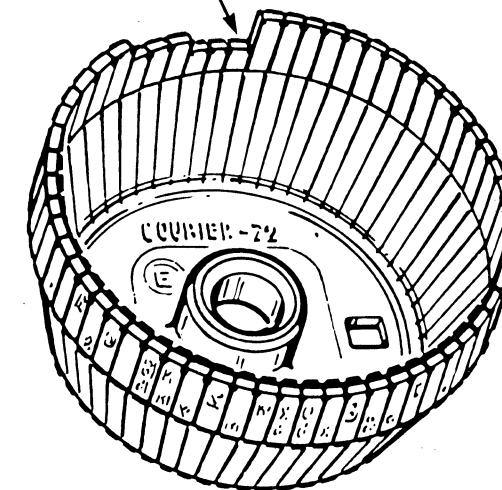

Figure 2-1 Last Short Finger on Print Thimble
- If the installed print thimble has a cutout, ensure that the last small finger on the right of the print thimble (see Figure 2-1) is centered on the hammer with power on (see Section 5.1).